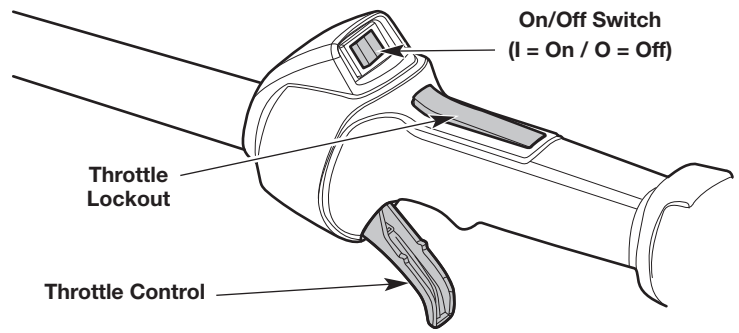

Fig. 19
NOTE: There is no need to turn the unit on. The On/Off switch is in the **On (I)** position at all times (Fig. 19).
4. Press and hold the throttle lockout (Fig. 19). Squeeze and hold the throttle control (Fig. 19).
2. Press and hold the On/Off switch in the **Off (O)** position until the engine comes to a complete stop (Fig. 19).